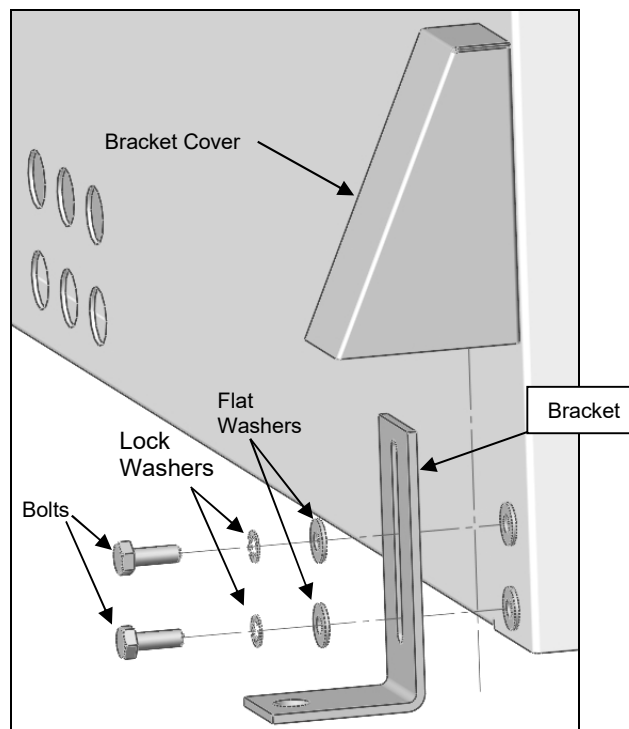

Figure 3: Rear Floor Anchor Brackets
- c. Attach the remaining two brackets to the rear corners of the lower section of the table base as shown in figure 3. Place the bases of the brackets flush with the floor but do not tighten the bolts.